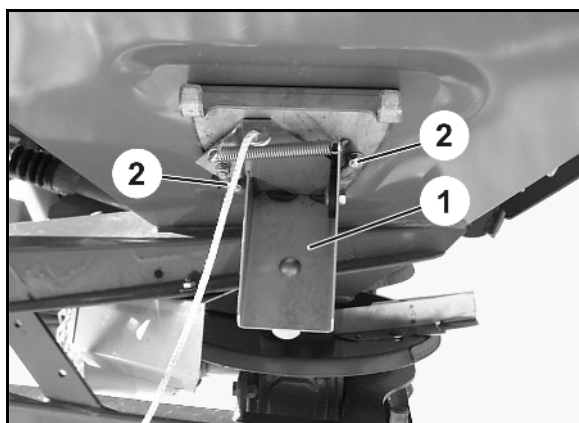

Fig. 42
1. Remove the plastic plug (Fig. 42/1).